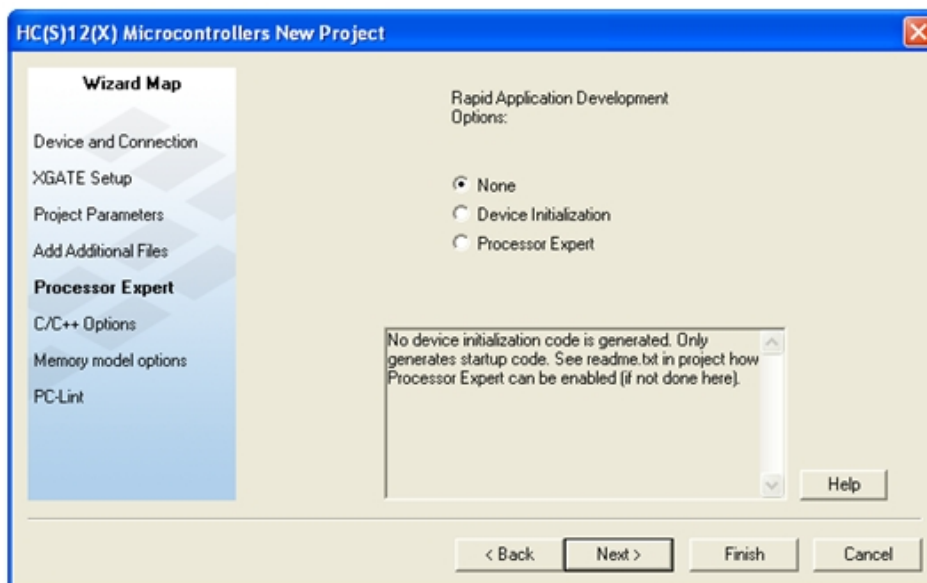

Figure 3-6 Processor Expert Screen
10. The **Processor Expert** screen appears. As shown as **Figure 3-6**.